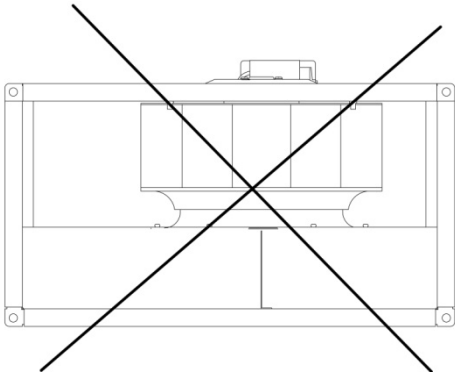

Fig. 1
Refer to Safety information above. Installation, electrical connection and commissioning are only to be carried out by authorised personnel and in accordance with requirements and demands. Electrical connections are made according to the wiring diagram in the terminal box, markings on terminal blocks or on cable. All 3 phase fans are delivered from factory in 400V 3~ connection. Seal any empty cable glands with dummy plugs. The K-fan must be installed with the connection box at the top of the unit ± 90 degrees. If permanent installation is carried out using cables with diameter 12-14 mm, the entrance bush must be replaced (applies to type K, KV, RVF and KVK 125/160). To preserve IP44 the RS fans must not be mounted with the connection box/motor plate upwards (**Fig.1**). Fans with thermal contacts with external leads (TK) must always be connected to external motor protection. Assemble the fan in the direction of airflow (see arrow on unit). The fan must be installed to ensure that any vibration is not transmitted via the duct system or frame of the building. (Suitable accessories such as fast clamps and diffusers are available). Make sure the assembly of the fan is firmly fixed and stable (**Fig 3**). The fan can be mounted in any direction unless stated otherwise. The fans must be installed to ensure that service and maintenance can be performed easily and safely. Disturbing noise can be reduced by installing silencers (available as an accessory).